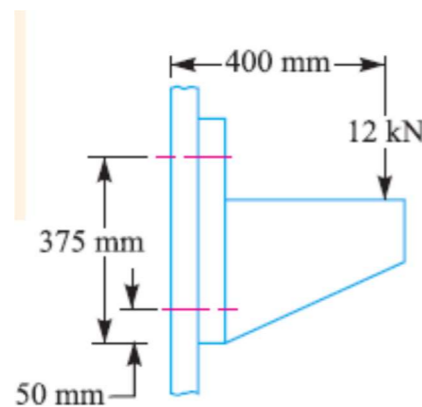

Fig. 13(a) - All dimensions are in mm
- (b) A rigid type of coupling is used to connect two shafts transmitting 15 kW at 200 rpm. The shaft, keys and bolts are made up of C45 steel and the coupling is of cast iron. Design the coupling and make a neat sketch of the assembly indicating the important dimensions. (14) 2 3
13. (a) For supporting the traveling crane in a workshop, the brackets are fixed on steel columns as shown in Fig.13 (a). The maximum load that comes on the bracket is 12 kN acting vertically at a distance of 400 mm from the face of the column. The vertical face of the bracket is secured to a column by four bolts, in two rows (two in each row) at a distance of 50 mm from the lower edge of the bracket. Determine the size of the bolts if the permissible value of the tensile stress for the bolt material is 84 MPa. Also find the cross-section of the arm of the bracket which is rectangular. (14) 3 3